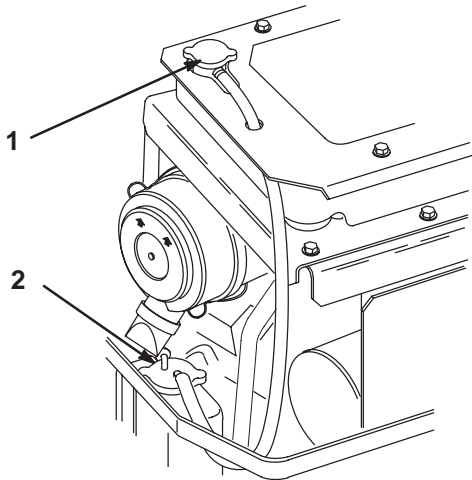

Figure 9
- With the engine cool, remove the radiator cap (Fig. 9).
- Add 50/50 coolant mix to overflow bottle and fill to indicator line on the bottle, if required (Fig. 9).